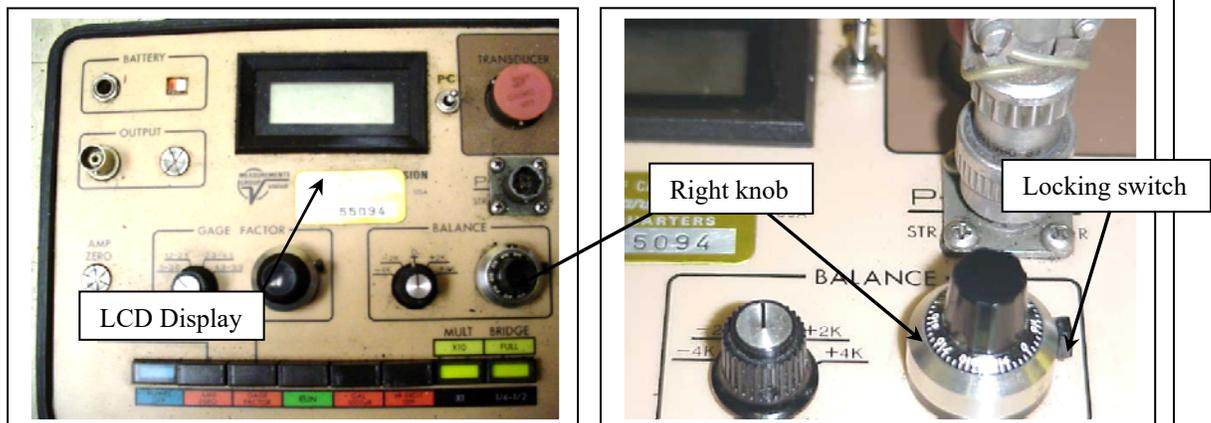

Figure B-6.
7. Push the “run” button, use the knob on the right in the “balance square” to set the number in the LCD display to “0.000+/-” keeping in mind that this button also has a locking switch. Move the switch counter clockwise to unlock. After adjustment, move the switch to the lock position (clockwise) (Figure B-6).